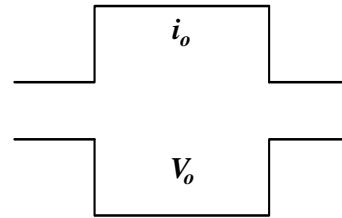
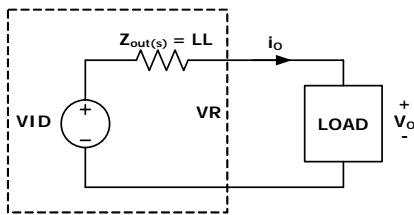

FIGURE 14. DESIRED LOAD TRANSIENT RESPONSE WAVEFORMS
FIGURE 20. VOLTAGE REGULATOR EQUIVALENT
Assuming the compensator design is correct, Figure 14 shows the expected load transient response waveforms if  $C_n$  is correctly selected. When the load current  $I_{core}$  has a square change, the output voltage  $V_{core}$  also has a square response.
Figure 14 shows the desired load transient response waveforms. Figure 20 shows the equivalent circuit of a voltage regulator (VR) with the droop function. A VR is equivalent to a voltage source ( $= \text{VID}$ ) and output impedance  $Z_{\text{out}}(s)$ . If  $Z_{\text{out}}(s)$  is equal to the load line slope  $LL$ , i.e. constant output impedance, in the entire frequency range,  $V_o$  will have square response when  $I_o$  has a square change.